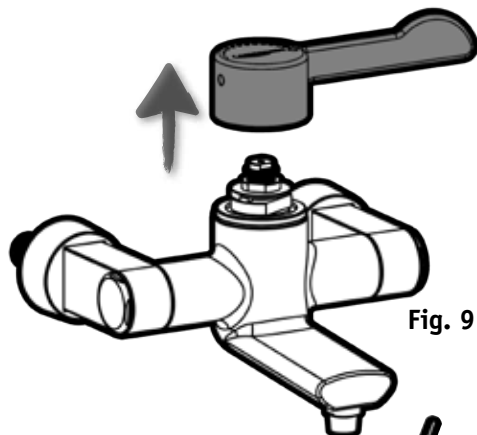

Fig. 9
2) Remove HANDLE 1 from the tap by lifting it upwards (Fig. 9)